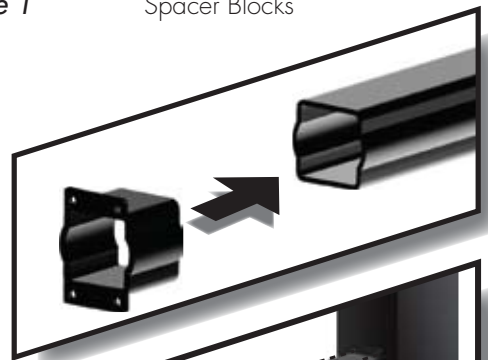

Figure 3
- 6.) Using a $\frac{1}{8}$ " drill bit, carefully pre-drill all four bottom bracket screw holes on one post *Figure 3*.